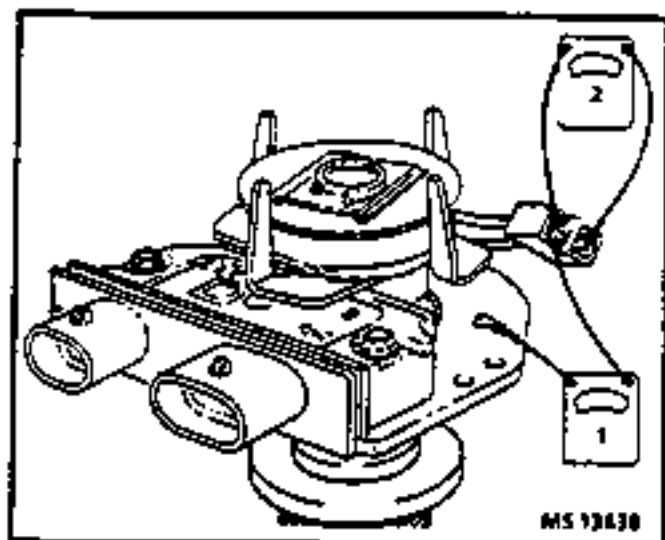

Figure 11 - Testing the Pickup Coil
- Connect an ohmmeter to either pickup coil lead and the housing as shown in Figure 11, Step 1. The reading should be infinite. If not, replace the coil.
- Connect an ohmmeter to both pickup coil leads as shown in Figure 11, Step 2. Flex the leads by hand at the coil and the connector to locate any intermittent opens. The ohmmeter should read a constant unchanging value in the 500 to 1500 ohm range. If not, replace the coil.